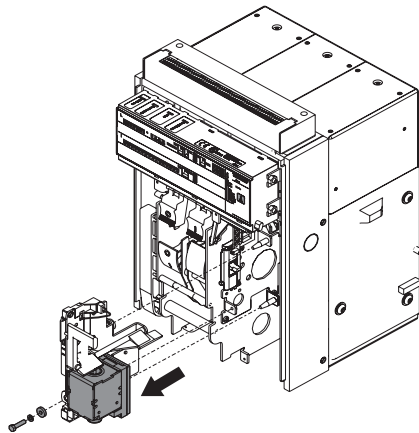

Fig. 37
- Re-assemble the escutcheon plate as shown in figure 37.